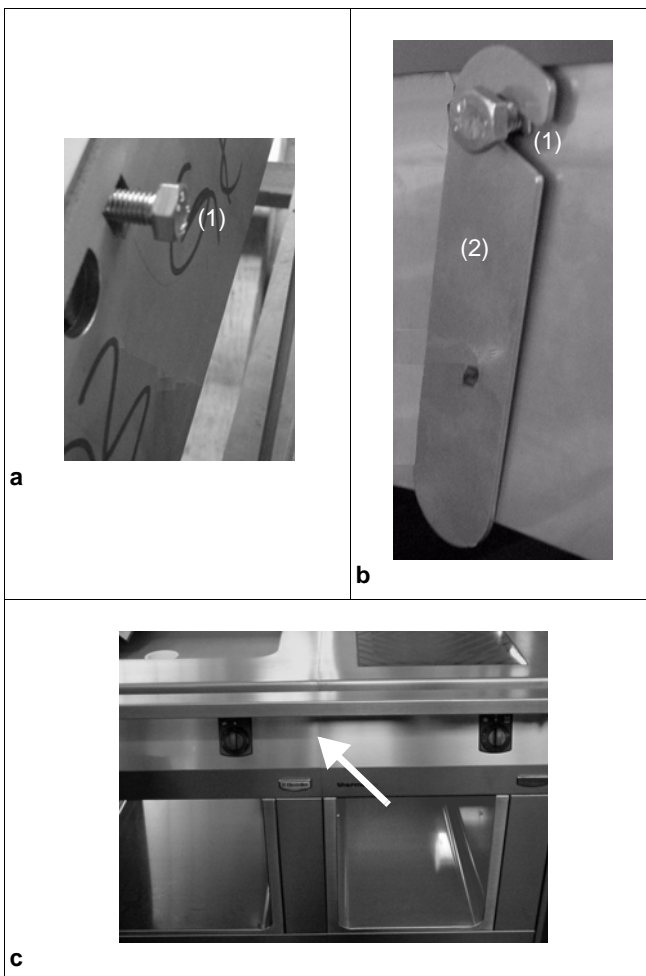
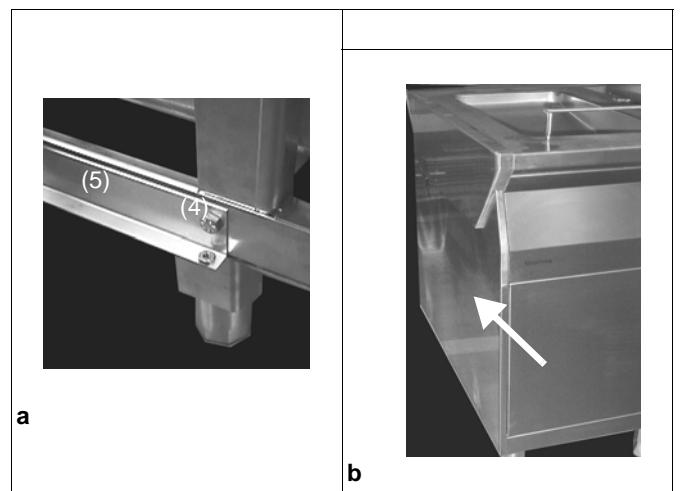

Fig.1 Lateral connection
Fig.2 Assemblage of sidewall
The assembly kit contains two of each of the following: caged nuts (1 / Fig.1) pre-assembled on the right-hand side of the appliance, hexagonal screws M8x25 (1 / Fig.1) and mounting links (2 / Fig.1)
- ⇒ Keeping the screw (1 / Fig.1) loose, turn it until it is approximately 5 mm deep in the caged nut.
- ⇒ Fit the mounting link (2 / Fig.1) into the inside of the second appliance's left connecting plate.
The assembly kit contains two of each of the following: hexagonal screws M8x25 (1 / Fig.1), bolts with retaining rings (2 / Fig.1), mounting links (3 / Fig.1), hexagonal screws M8x16 with serrated washers and hexagonal nuts M8, hexagonal screws M5 with serrated washers (4 / Fig.2) and a fastening angle (5 / Fig.2).
- ⇒ (4 / Fig.2).